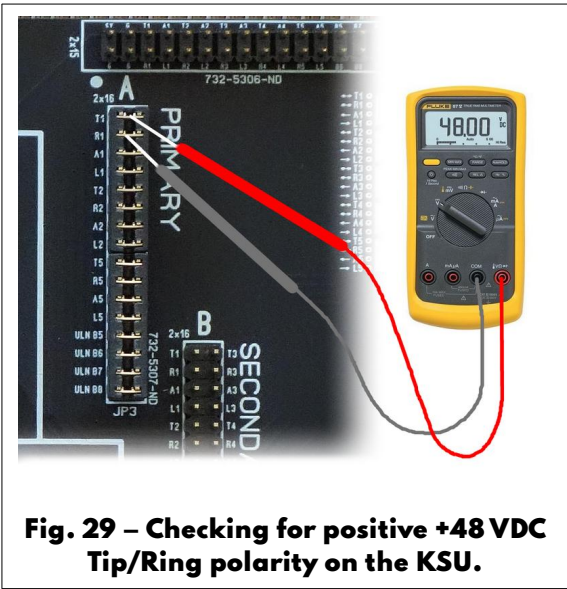

Fig. 29 – Checking for positive +48 VDC Tip/Ring polarity on the KSU.
5. **Proper polarity** should read **positive voltage** (approx. +48 Volts DC) on an idle phone line. (Fig. 29)